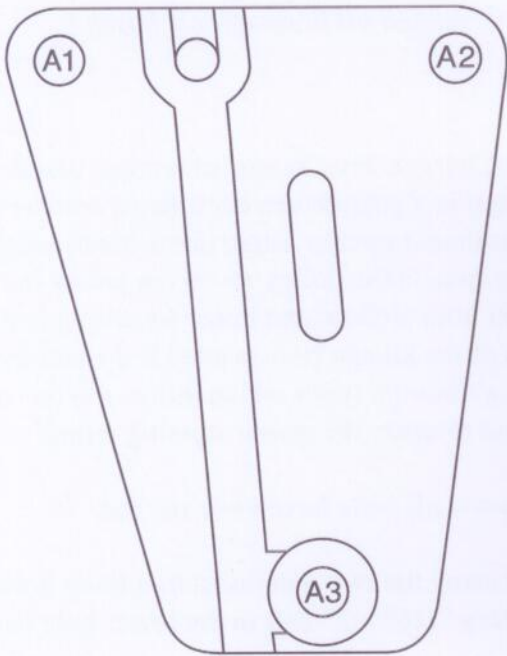
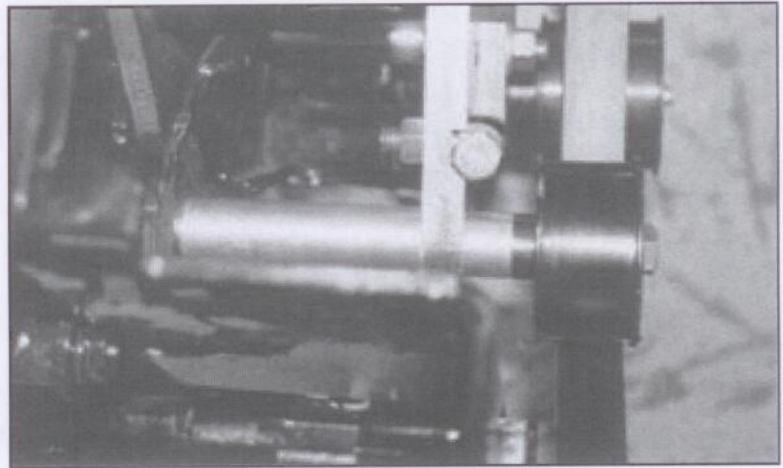

FIGURE D6
FIGURE D7
- 8b. SC: Using the supplied (4) 5/16" and (2) 3/8" socket head cap screws, attach the ProCharger to the main bracket.
9. Mount the tensioner bracket, as oriented in figure D6, on the front starboard side of the engine. Using a 3/8" x 4 1/2" bolt and the 2.65" spacer, attach hole A2 to the crossover tube flange. Use the 7/16" x 4" bolt and 3.0" spacer to attach hole A3 to the lower hole in the engine block. Place the 3.1" spacer between bracket and head. Place the fixed idler pulley with a 1.125" bushing (2.0" O.A.L.) on the outside of the bracket and using a 7/16" x 7" bolt (see figure D7), attach hole A1 to the bolt hole left vacant when the stud was removed in step 12 in section A.